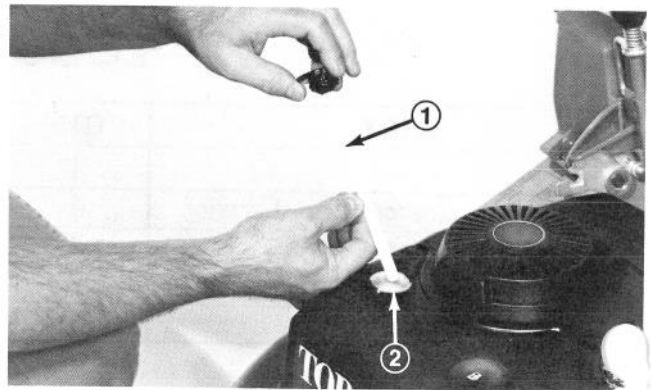

Figure 5
4. Check oil level and replace dipstick (Fig. 5).